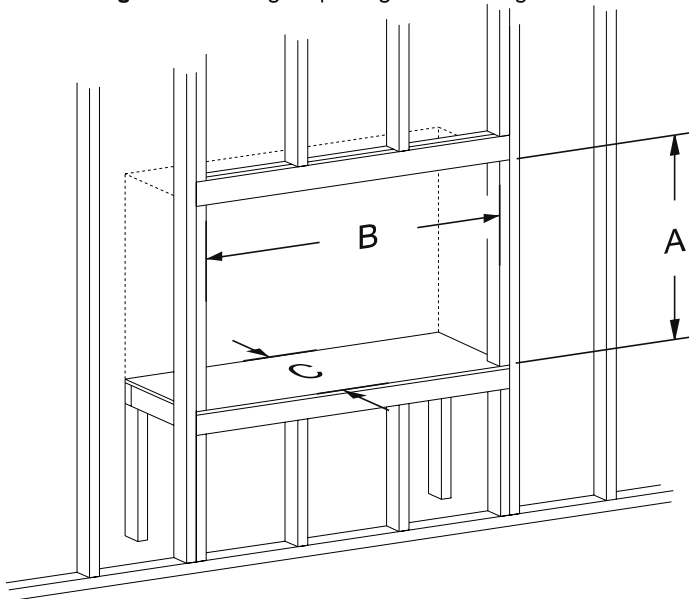

Figure 45 - Rough Opening for Elevated Installation
- Use **Figure 45** for an elevated installation. Provide support to the bottom of the fireplace.